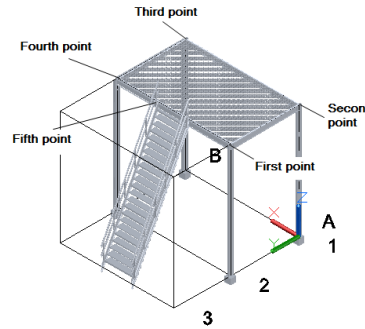

Figure 3-48 Points to be selected to create the railing
- Invoke the **Railing** tool again and select the points, as shown in Figure 3-48; a railing is created between the selected points. Next, press ENTER.